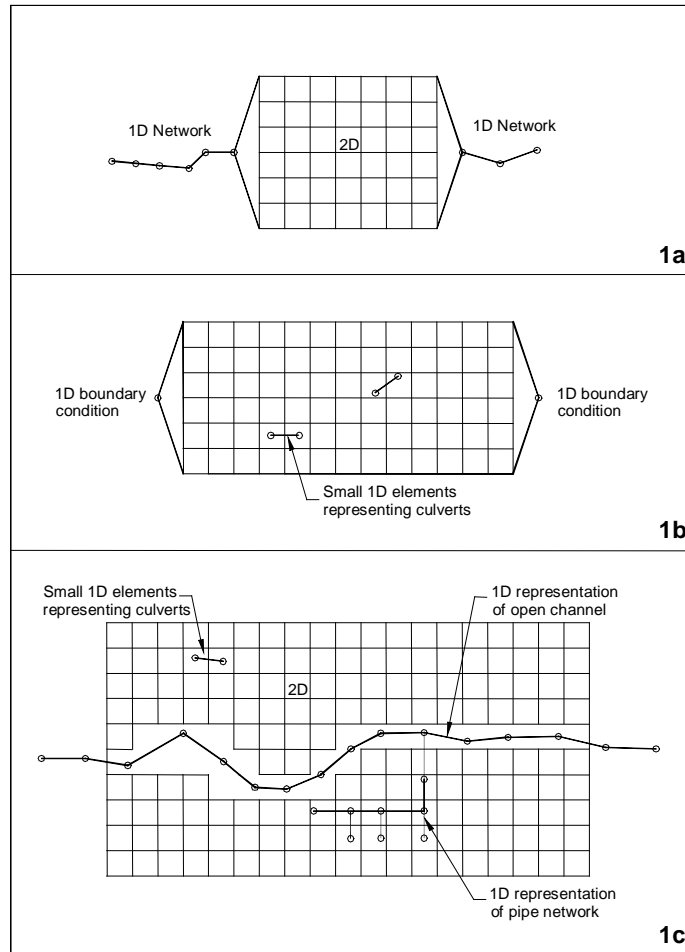
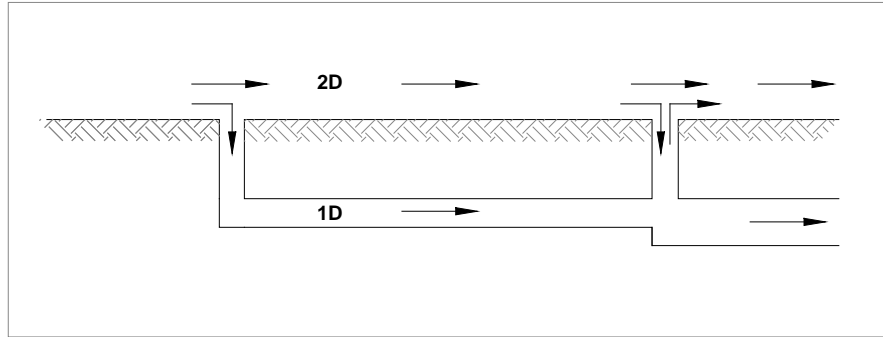
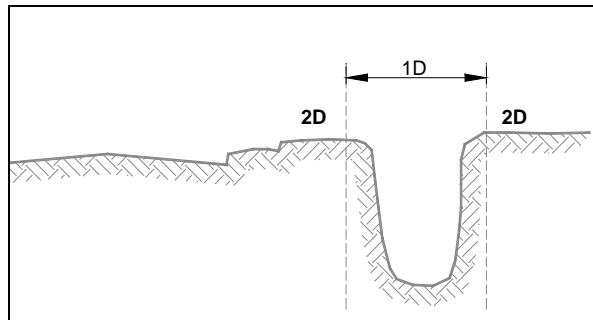

Figure 2 Various methodologies to link 1D and 2D domains (From TUFLOW Users Manual - www.TUFLOW.com)
Figure 3 Pipe network underneath a 2D model (From TUFLOW Users Manual - www.TUFLOW.com)
Figure 4 Open Channel (1D) within a 2D domain (From TUFLOW Users Manual - www.TUFLOW.com)
- Embedding a 2D domain inside of a large 1D domain (see sketch 1a in Figure 2).
- Insert 1D networks “underneath” a 2D domain (see sketch 1b in Figure 2 and Figure 3).
- Replace or “carve” a 1D channel through a 2D domain (see sketch 1c in Figure 2 and Figure 4).